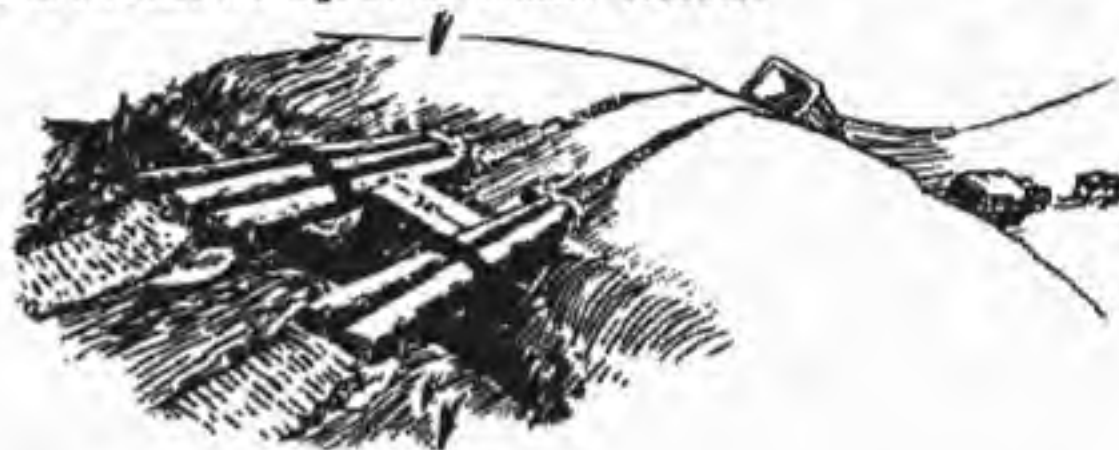

Figure 6
- A convoy of mixed wheeled vehicles may cross such ditches as are too deep to drive through by using five logs. The logs should be approximately 10 inches in diameter, from 3 to 4 feet longer than the span and positioned as indicated in Figure 6. This arrangement will pass a wheeled vehicle convoy without re-positioning the logs. To prevent the logs from spreading apart, stakes should be driven into the ground on both sides of the logs, and the logs should be lashed together at the center with a chain, wire, or rope. Only two logs would be required to pass a dual-wheeled vehicle across a ditch. The front wheels can be converted to duals by using the spare wheels or by removing the outer wheels of one of the sets of rear duals, and allowing the dual wheels to straddle the logs as the vehicle crosses.